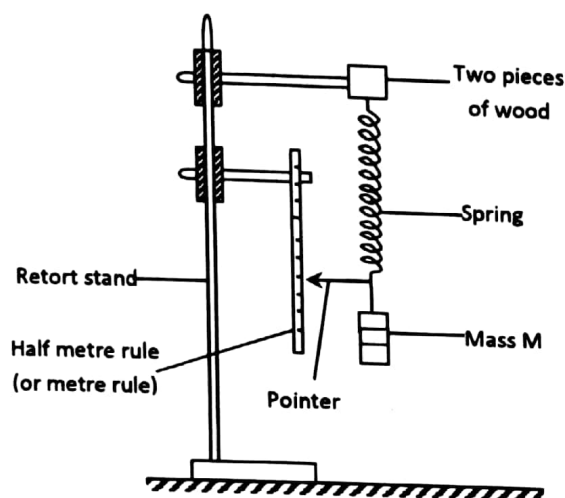

Fig. 1
- (e) Clamp the spring provided and the half metre rule as shown in figure 1.
- (a) Remove the half metre rule and suspend a mass, $m = 0.250$ kg from the spring as in Fig 1.